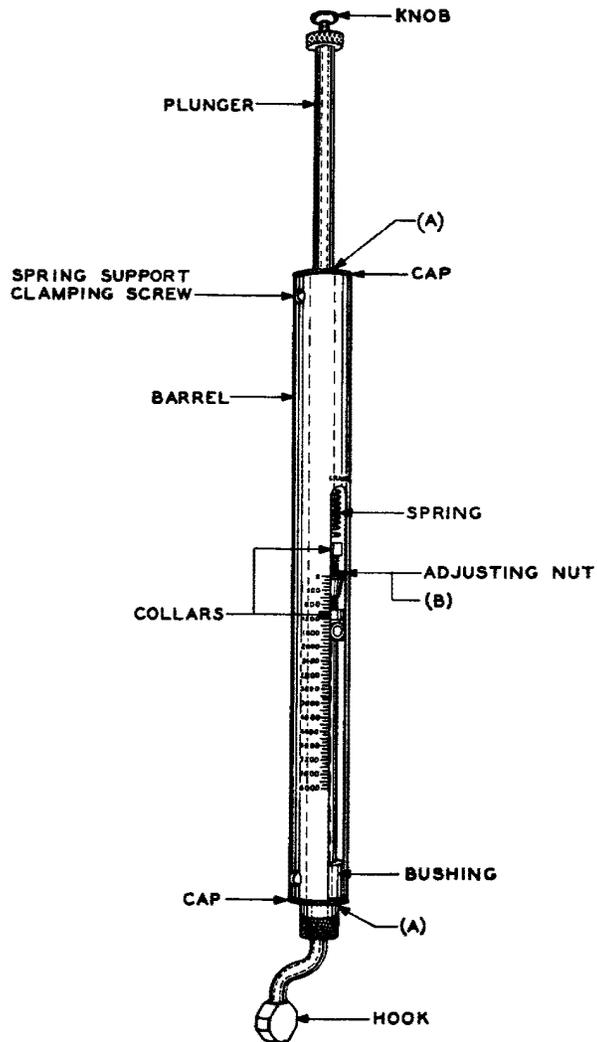

Fig. 6 - Designation of Parts of Nos. 79D, 79E, and 79F Gauges (No. 79E Gauge Illustrated)
2.06 Plunger Assembly Position (Nos. 79D, 79E, and 79F Gauges Only): Fig. 6(A) - When the plunger is moved to either extreme position, it shall not touch the cap on the bushing at any point throughout its movement.
2.07 Shaft Assembly Position (Nos. 79D, 79E, and 79F Gauges Only): Fig. 6(B) - When the plunger is moved to either extreme position, the adjusting nut shall not touch the barrel.
2.08 Adjusting Nut Location (Nos. 79D, 79E, and 79F Gauges Only): Fig. 6(B) - With the gauges held in a vertical position, either end at the top, it shall be possible to revolve the adjusting nut to a position where either edge of the indicator groove can be brought into alignment with the zero graduation on the side of the barrel nearest to it. When so adjusted, the clearance between the ends of the adjusting nut and the adjacent surfaces of the associated collars on the Nos. 79D and 79E gauges shall be
2.10 Tightness of Spring Support Clamping Screws: Fig. 6 - The clamping screws shall be sufficiently tight to hold the spring support in its adjusted position.